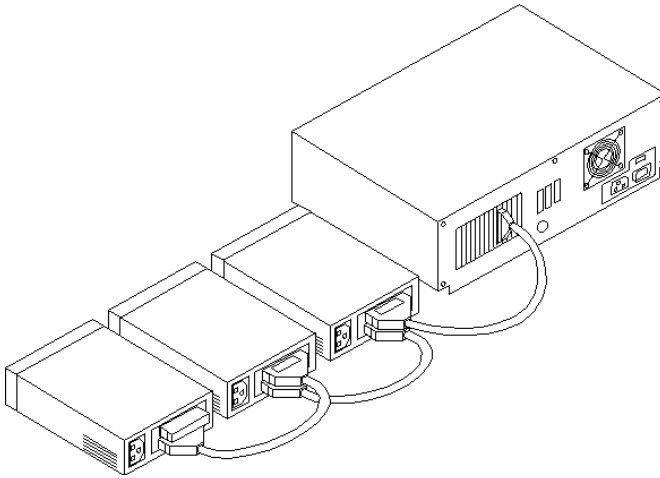

Figure 7 - External cable connection
7. Installation of external SCSI cables can be performed after the cover has been closed. The cable is limited in length to a total of six meters including any internal cabling. The external cable can be daisy chained to include up to seven devices with the 3092 in combination with internal devices. The external cable is designed to be inserted only one way requiring termination at the end peripheral device on the bus (see figure 7).